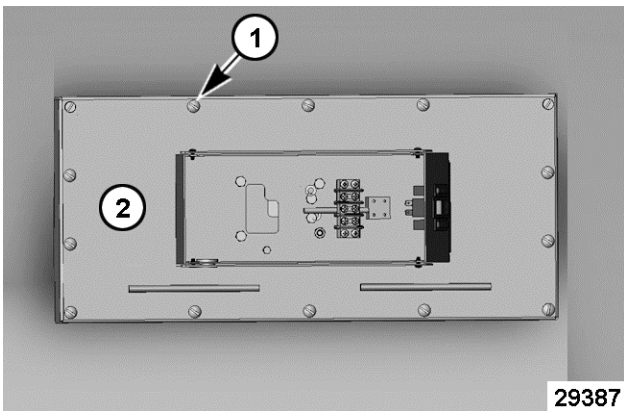

Fig. 22
- C. Remove 12 screws (1, Fig. 22) securing platen cover assembly (2, Fig. 22) to clamshell assembly.